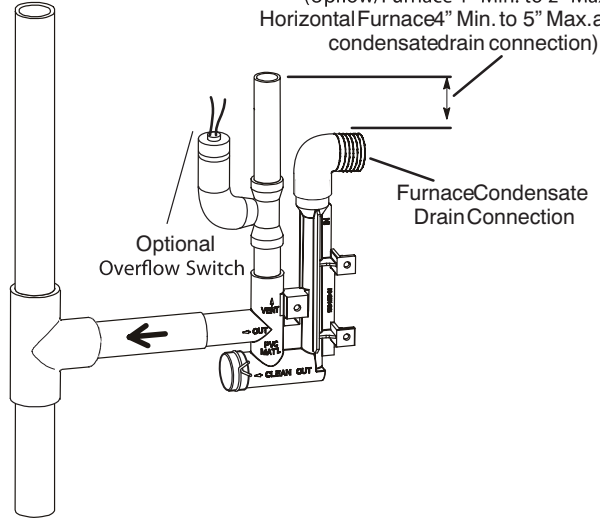

Figure 50
- 5 - Figure 49 and Figure 51 shows the furnace and evaporator coil using a separate drain. If necessary the condensate line from the furnace and evaporator coil can drain together. See Figure 50, Figure 52, and Figure 53. **Upflow furnace (Figure 52)** - In upflow furnace applications the field provided vent must be a minimum 1" to a maximum 2" length above the condensate drain outlet connection. Any length above 2" may result in a flooded heat exchanger if the combined primary drain line were to become restricted. **Horizontal furnace (Figure 53)** - In horizontal furnace applications the field provided vent must be a minimum 4" to a maximum 5" length above the condensate drain outlet connection. Any length above 5" may result in a flooded heat exchanger if the combined primary drain line were to become restricted.